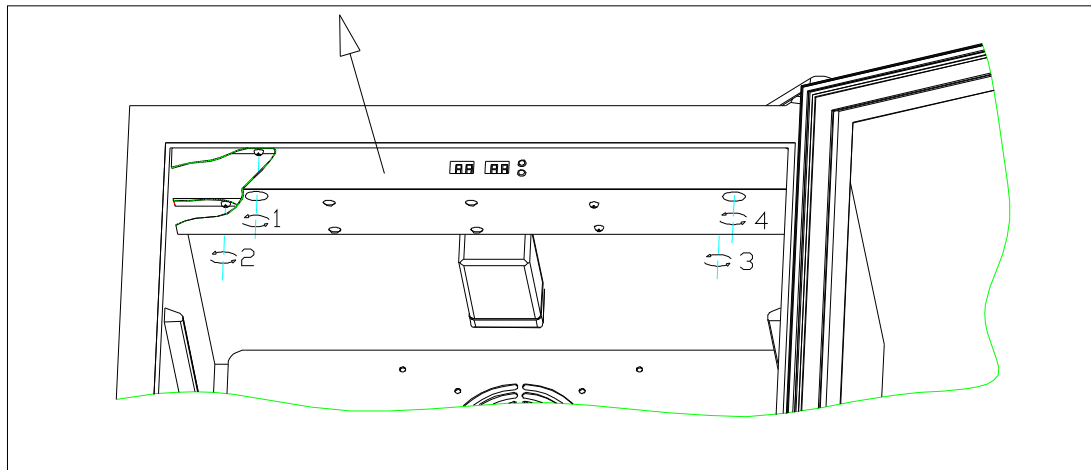
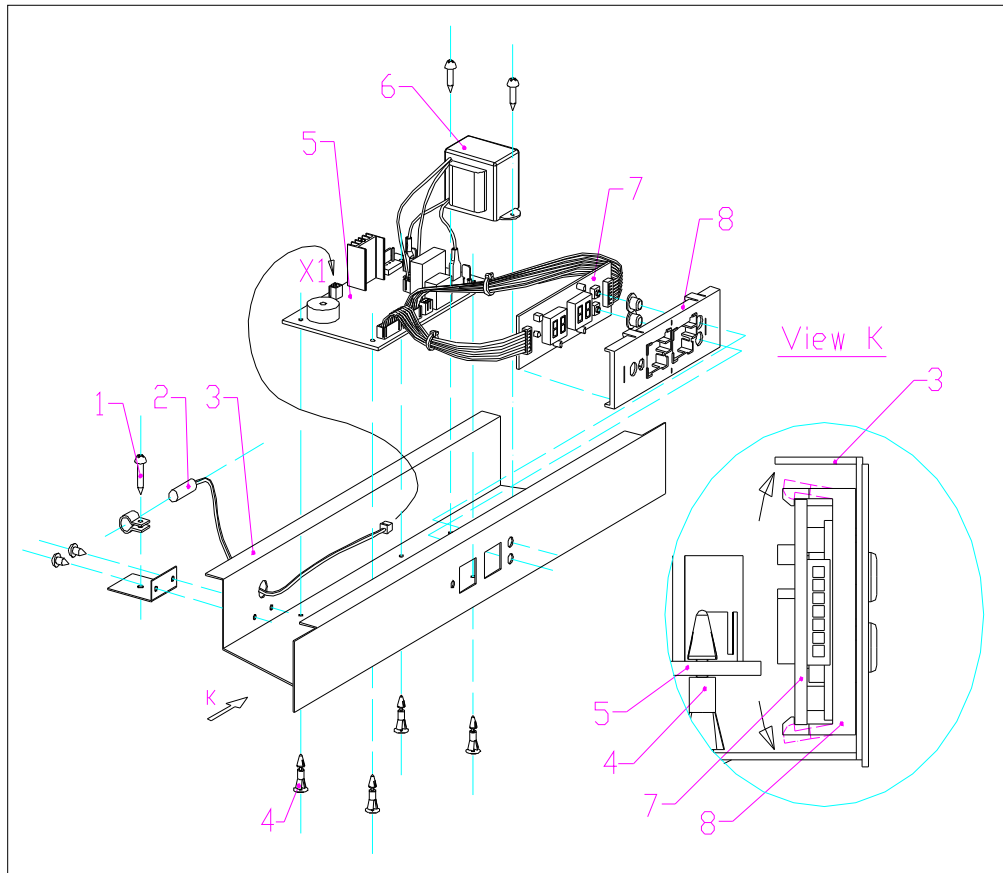
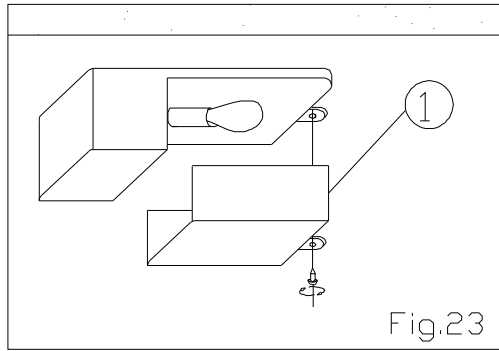

Fig.18
Fig.19
Fig.23
Check the faulty part and relevant connection. If this does not cure the fault replace the control board see (Fig.18 & Fig.19)
- 1 >. Normally the LED temperature display should show the ambient temperature shortly after the unit is plugged in, if not, disassemble the electrical box see (fig 18), check if the sensor plug marked “X1” “X10” connected properly, if these connections are made correctly and the fault persists replace this sensor after the air duct board(Fig.1, Fig.2 ,Fig.3, Fig.4 & Fig.5).
1 >. Normally the LED temperature display should the ambient temperature shortly after the unit is plugged in, if not, disassemble the electrical box see (Fig.18 & Fig.19), check if the sensor plug marked “XI” connected properly, if this connection is made correctly and the fault persists replace this sensor,
- 2 >. If the LED displays” E1” it indicates the inner sensor should be replaced see (Fig.18 & Fig.19)
- 3 >. If the LED displays” E2” it indicates the inner sensor should be replaced see (Fig.18& Fig.19)
- 4 >. For some older models with old computerized control panels,If the LED displays 37°C, 99F or, infinity, replaces the sensor. See(Fig.18& Fig.19)
Replace the electrical display board fault; see (Fig.18& Fig.19)
- 2 >. Remove the two screws at back of electrical box (2,3), then half-remove the two front screws (1,4), then remove the electrical box; see (Fig.18)
- 3 >. Remove the sensor fixing screw (1), unplug the other end from “X1” housing of the control board, and fit a new sensor; see; (Fig19)
- 4 >. Unplug all the connectors, then press the head of each of the four plastic screws (4) one by one, then remove the control board and replace the control board see (Fig.19)
- 5 >. Remove the two transformer fixing screws and replace the transformer (6);(Fig.19)
Pull the four 4 display cover (8) fasteners as per arrowhead direction, and then remove the display board and its two connectors from both sides. Replace the display board. See (Fig.19)
model1: PCB board is a complete block,and in the electicial box of the same box with the transformer;(Fig.19)
Unplug all the connectors from the control panel, and press the 4 studs (4) one by one, and up draw the control panel, Replace it with the same model’s PCB board; (Fig.19)
- a. Remove the the shelf , (Fig.19)
- b.Unplug all the connector, press the 4 studs (3) one by one. Updraw the control PCB board, and draw off the PCB board, , replace it with the same model's PCB board. (Fig.19)
- a. Remove the screw fixing lamp cover(Fig.18),take off the lamp cover(Fig.23).